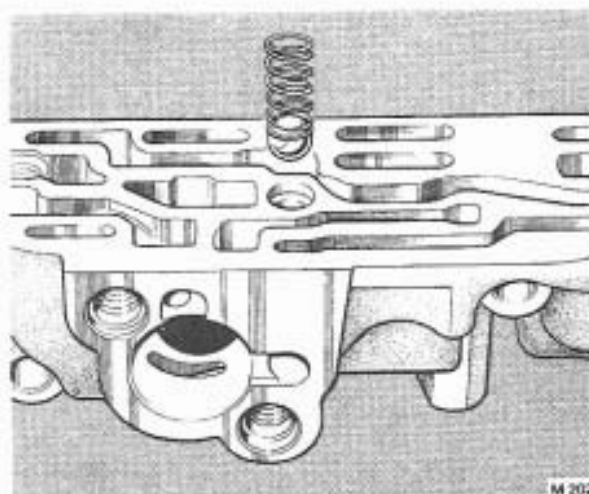

FIG. T37 POSITIONING THE OIL CHECK BALL VALVE
Position the oil check ball valve (40) on its seating in the front valve body (3) then fit the spring (41) and the cover plate (44). The valve seating will be found in the passage adjacent to the centre screw hole (see Fig. T37).